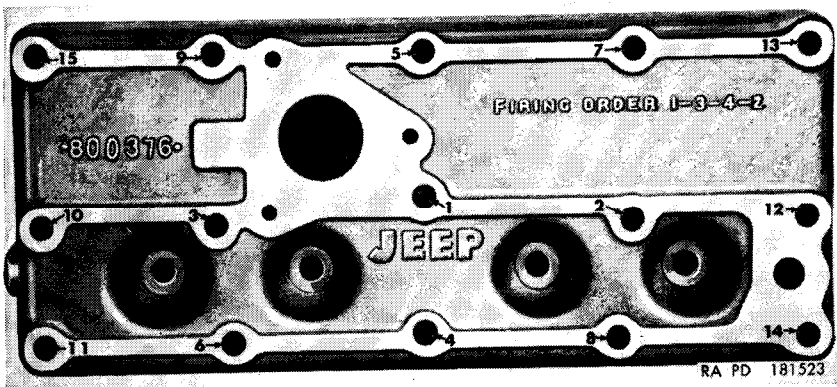

Figure 25. Cylinder-head nut tightening sequence.
- (1) Using cylinder-head studs 10 and 12 (fig. 25) as pilot studs for correct positioning, place a new cylinder-head gasket over the cylinder head studs. Position cylinder head on top of gasket being careful not to damage the threads on the studs.
- (2) Start eight  $\frac{7}{16}$ -inch cylinder-head stud nuts on studs 3, 4, 6, 8, 11, 12, 13, and 14 (fig. 25) and screw the nuts on fingertight.
- (3) Place the mounting bracket (on engine) (K), with oil filter assembly over cylinder-head studs 9, 10, and 15 (fig. 25) and screw nuts on studs fingertight.
- (4) Place the lifting hook (A) over the cylinder-head studs 1, 2, and 7 (fig. 25) and screw  $\frac{7}{16}$ -inch nuts on studs fingertight.
- (5) Position the air intake pipe with vent valve and bracket assembly (B) in the vehicle. Slide the control valve hose (H) onto the hose connection on the crankcase oil filler pipe assembly (S) and place the air intake pipe bracket (R) over the No. 5 stud (fig. 25) and screw  $\frac{7}{16}$ -inch nut on stud fingertight. Tighten the hose clamp screw (J) securing the control valve hose (H) to the filler pipe. Slide the air intake pipe hose onto the carburetor and the air cleaner. Secure the hose clamp screws (G, fig. 23) at each end of the pipe assembly.
- (7) Tighten all cylinder-head stud nuts to torque of 65–75 pound-feet in the sequence shown in figure 25 to secure the cylinder head to the cylinder block and the mounting bracket (on engine), lifting hook, and air intake pipe bracket to the cylinder head.
- (8) Install the  $\frac{5}{16} \times \frac{5}{8}$  flat washer screw (L) through the crankcase oil filler pipe support bracket into the mounting bracket (on engine) (K) and tighten.
- (9) Clean, adjust, and install the spark plugs and connect the spark plug cables (par. 145). Connect the water temperature sending unit cable (N) by pushing the connector plug on the end of the cable into the sending unit receptacle and turning the connector clockwise to secure it to the sending unit.
nut No. 2 (fig. 25). Screw speed nut (E, fig. 23) onto the stud to secure the clip. Screw nuts at both ends of the line into fittings. Position the vent line (C, fig. 23) between the carburetor assembly (J, fig. 23) and the air intake pipe with vent valve and bracket assembly (B, fig. 23) and screw the nuts at each end of the line into the fittings.